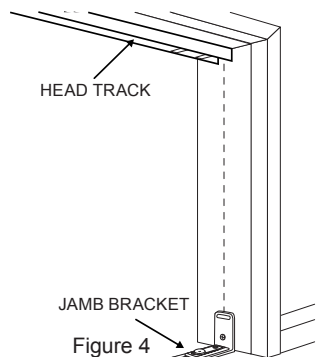

Figure 4
**4** Position the jamb bracket so that the centre line of the pivot hole is plumb with the centre line of the pivot socket. Screw bracket to both floor and jamb. (Figure 4)